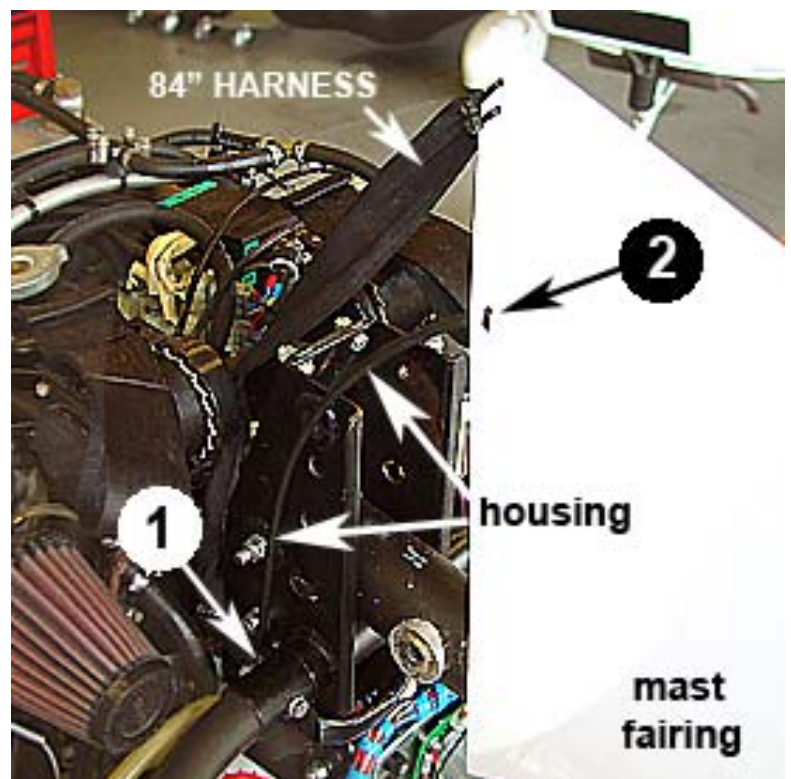

Figure 4-27
Figure 4-27 shows the correct shape of the Rear Handle Housing between points ❶ and ❷ when the vertical mast is in the DOWN position.